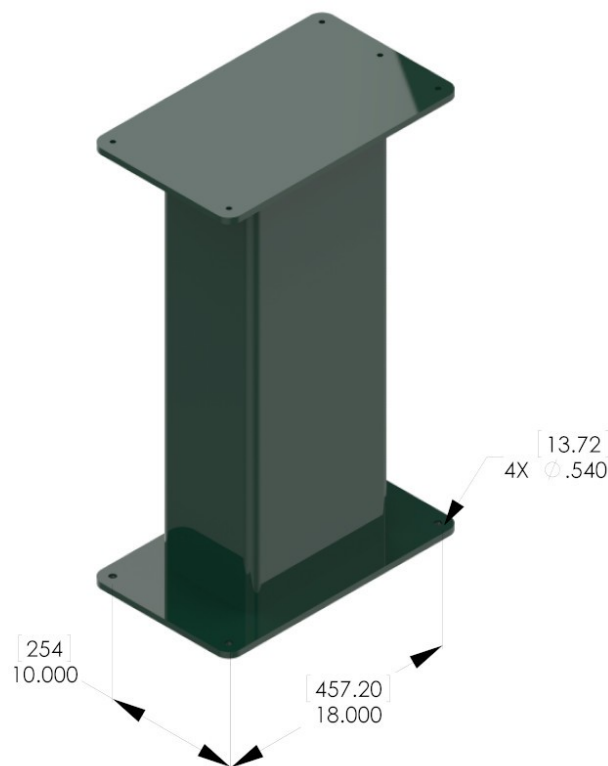

Figure 1: SFS82 Base Plate mounting holes
The SFS82 Servo Finishing Stand is secured by four (4) fasteners passing through mounting holes located in the Base Plate. The Base Plate mounting hole locations are shown in Figure 1. The SFS82 must be securely mounted to keep the unit from moving during operation, and must be mounted level to achieve the desired force output. A spirit level can be placed on the top of the Finishing Stand and shims can be inserted under the Base Plate as required.